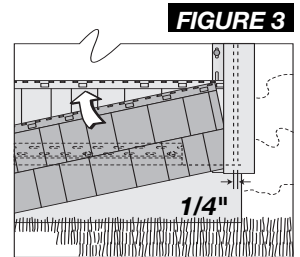

FIGURE 3
2) Starting on the right side of the wall, hook the bottom locking leg of the panel into the starter strip and slide the panel into the cornerpost or receiving channel (figure 3). Leave 1/4" space between the panel and the corner for expansion. If you are planning to install the Mitered Cornerpost, space the panel 3" from the corner.